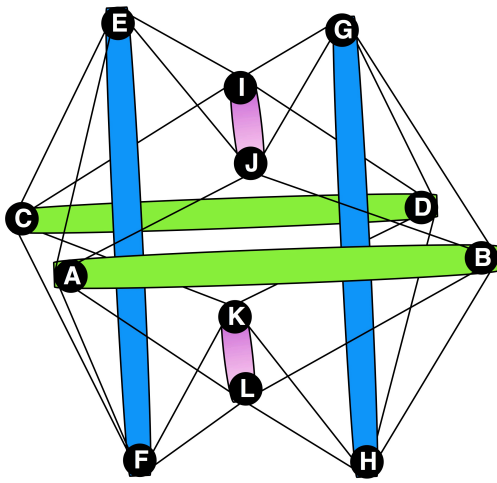
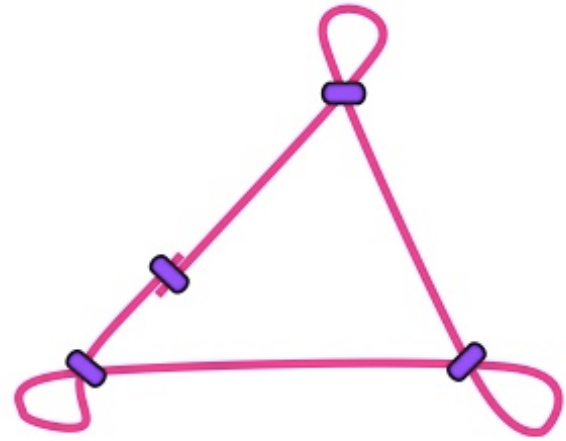

Figure 3
Figure 4
- Once the struts have been secured to the cube, the tension elements are threaded. Figure 3 shows shows a way to thread the 24 tensile elements with a single thread. Here is one pattern that works:
- Figure 4 shows a hybrid between these two designs: 8 tension-triangles. The purple bands represent beading crimp tubes and crimping tools (available from sources like <http://www.beadalon.com> and <http://jinkaifishingline.com/>). The loops are for hooking over posts on the end-points; the end-point triangles are AEJ, BGJ, CEI, DGI, AFL, BHL, CFK, and DHK (see Figure 3). While the loops would have to be measured and crimped precisely, they would be far easier to create than the 24-thread interconnected tensile web.